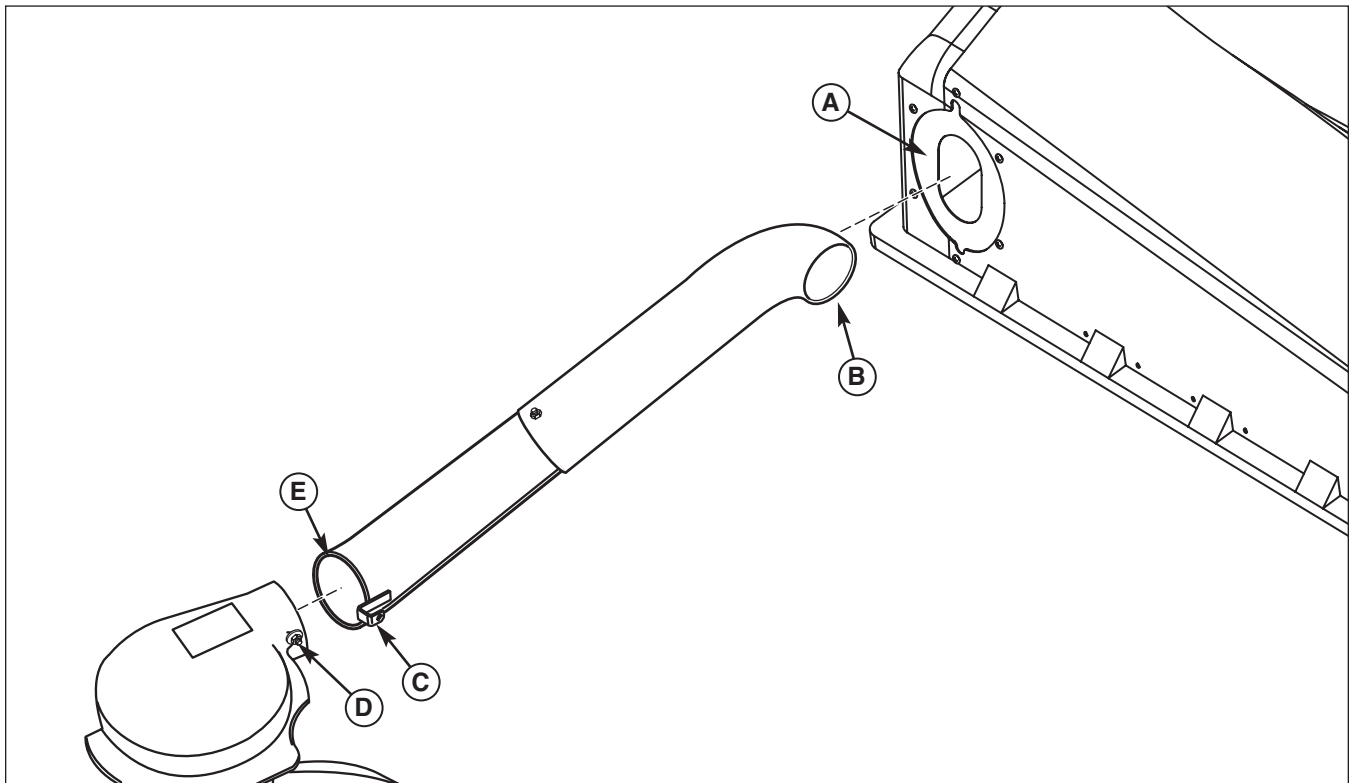

Figure 27. Connect Tube to Hood and Turbo
- Slide the discharge end of tube assembly (A, Figure 27) through the seal (A). This may require some rotating or turning of the discharge end of tube assembly.
- Slide the intake end of tube assembly (E) over the turbo aligning clip (C) and nut and capscrew (D).
- Lift clip (C) over nut and capscrew to secure tube to turbo.